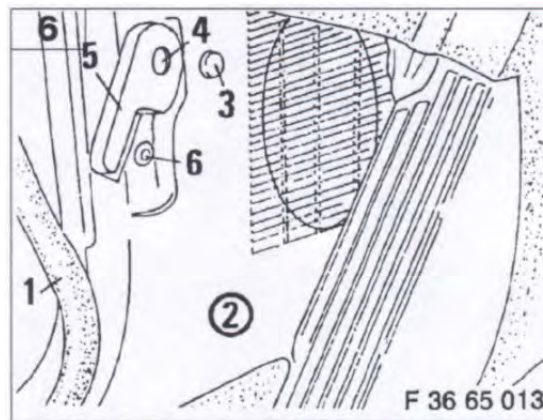

Figure 5 – Removing Kick Panel (Item 2)
5.5 Remove driver's side kick panel (Figure 5). Remove engine hood latch (Item 5) by removing Phillips screw (Item 4).